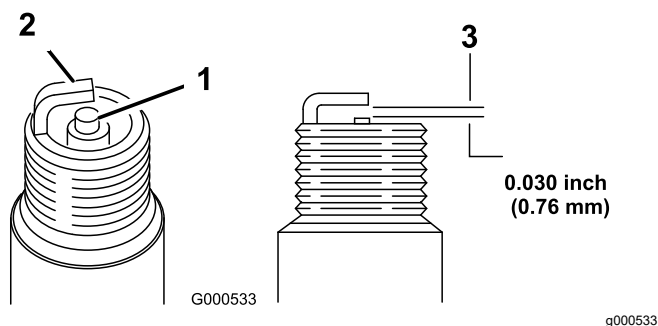

Figure 24
5. Set the gap on the plug to 0.76 mm (0.030 inch); refer to Figure 24.